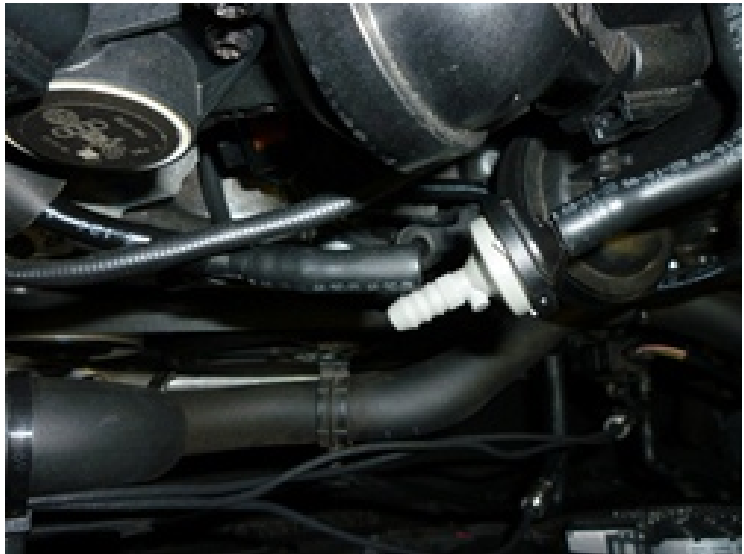

Figure 1. Vacuum check valve.
1. Check the vacuum check valve for leaks (Figure 1). The direction of flow should only be towards the intake manifold.